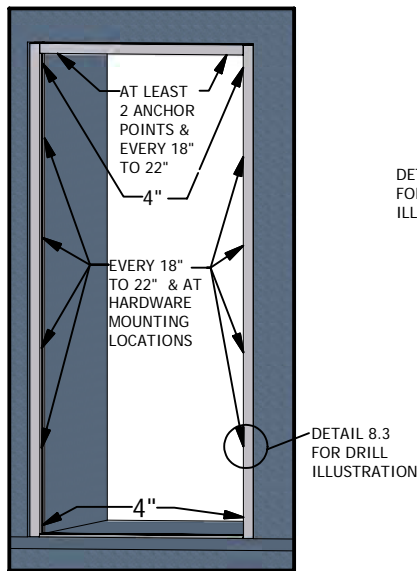

Figure 8.1
- C.) Pre-mark anchor hole locations. Place frame members in actual opening and mark out anchor locations. Vertical jambs need anchor points roughly 4" from top and bottom and then approximately every 18" to 22" (*figures 8.1 & 8.2*). Horizontal headers and bases need at least at 2 anchor points and approximately every 18" (*figures 8.1 & 8.2*). Always mark anchor points at strike, butt hinge, closer mounting, and other hardware mounting locations.